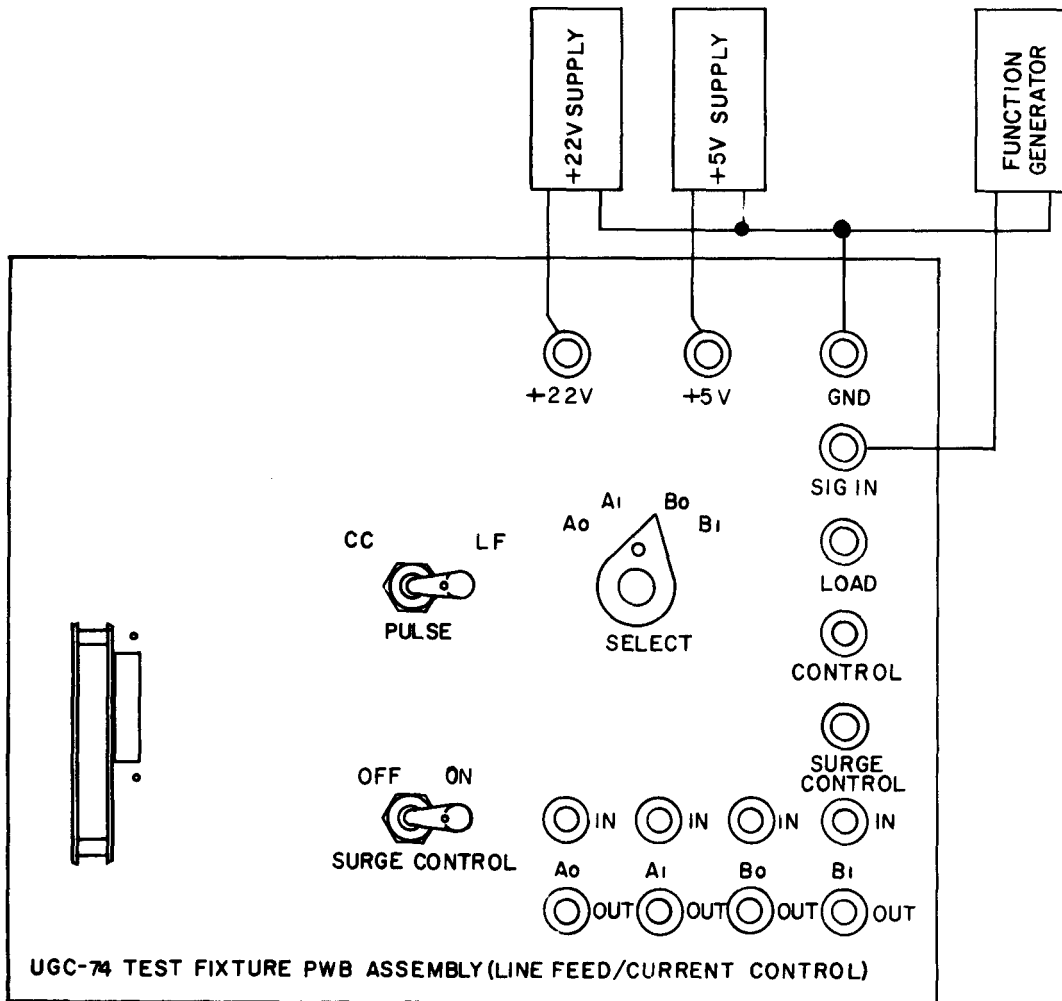

Figure 6-18. MOTOR DRIVE AND CURRENT CONTROL BOARD ASSEMBLY TEST SETUP.
c. Test Setup Procedure for Motor Drive (Line Feed)and Current Control Board Assembly (fig. 6-18).
- Place test fixture SURGE CONTROL switch to OFF (opens circuit to pin H and SURGE CONTROL (TP)).